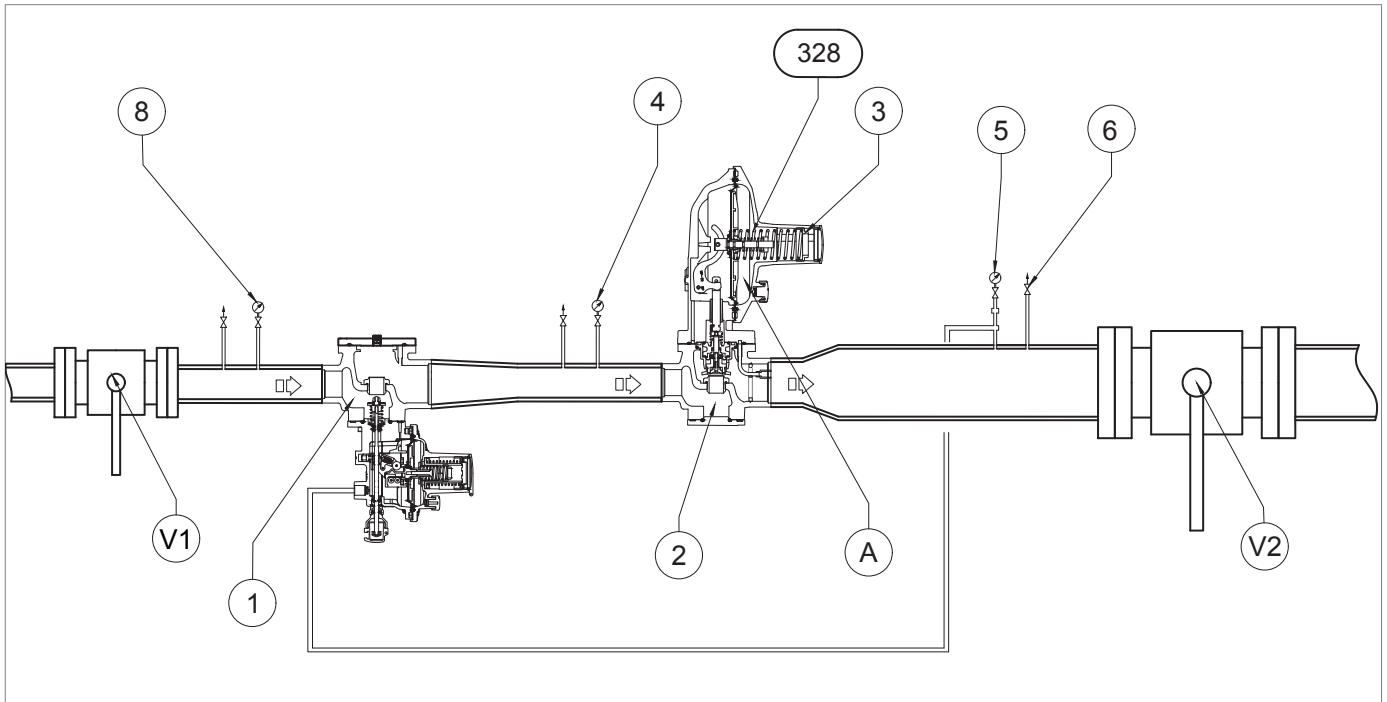

Fig. 8.15. Commissioning of the DILOCK slam-shut valve installed upstream of the regulator
1	<p>Increase the downstream pressure (Pd) to the slam-shut valve's tripping value, to check its correct setting, using an external pressure source (Fig. 8.17).</p> <div style="border: 1px solid black; padding: 5px;"> <p>! NOTICE!</p> <p>Check the pressure with reference to the pressure gauge (Fig. 8.15, ref. 5) downstream of the regulator.</p> <p>If the slam-shut valve:</p> <ul style="list-style-type: none"> <li>• trips before the expected pressure value: screw in (clockwise) the adjustment ring nut (13) so as to further compress the spring (11);</li> <li>• does not trip at the expected pressure value: unscrew (anti-clockwise) the adjustment ring nut (13) so as to relieve the spring (11).</li> </ul> </div>
2	Decrease the pressure of the downstream section by opening the vent (Fig. 8.15, ref. 6) to bring it up to the calibration value of the regulator.
3	Close the air vent valve (Fig. 8.15, ref. 6).
1	Partially open the bleed cock (Fig. 8.15, ref. 6) and keep it open for the next steps.
2	<p>Decrease the downstream pressure to the minimum required slam-shut valve pressure.</p> <div style="border: 1px solid black; padding: 5px;"> <p>! NOTICE!</p> <p>Check the pressure referring to the downstream pressure gauge (Fig. 8.15, ref. 5).</p> <p>If the slam-shut valve:</p> <ul style="list-style-type: none"> <li>• trips before the expected pressure value: unscrew (anti-clockwise) the adjustment ring nut (15) so as to relieve the spring (17);</li> <li>• does not trip before the expected pressure value, screw in (clockwise) the adjustment ring nut (15) so as to further compress the spring (17).</li> </ul> </div>
3	Close the bleed cock (Fig. 8.15, ref. 6).